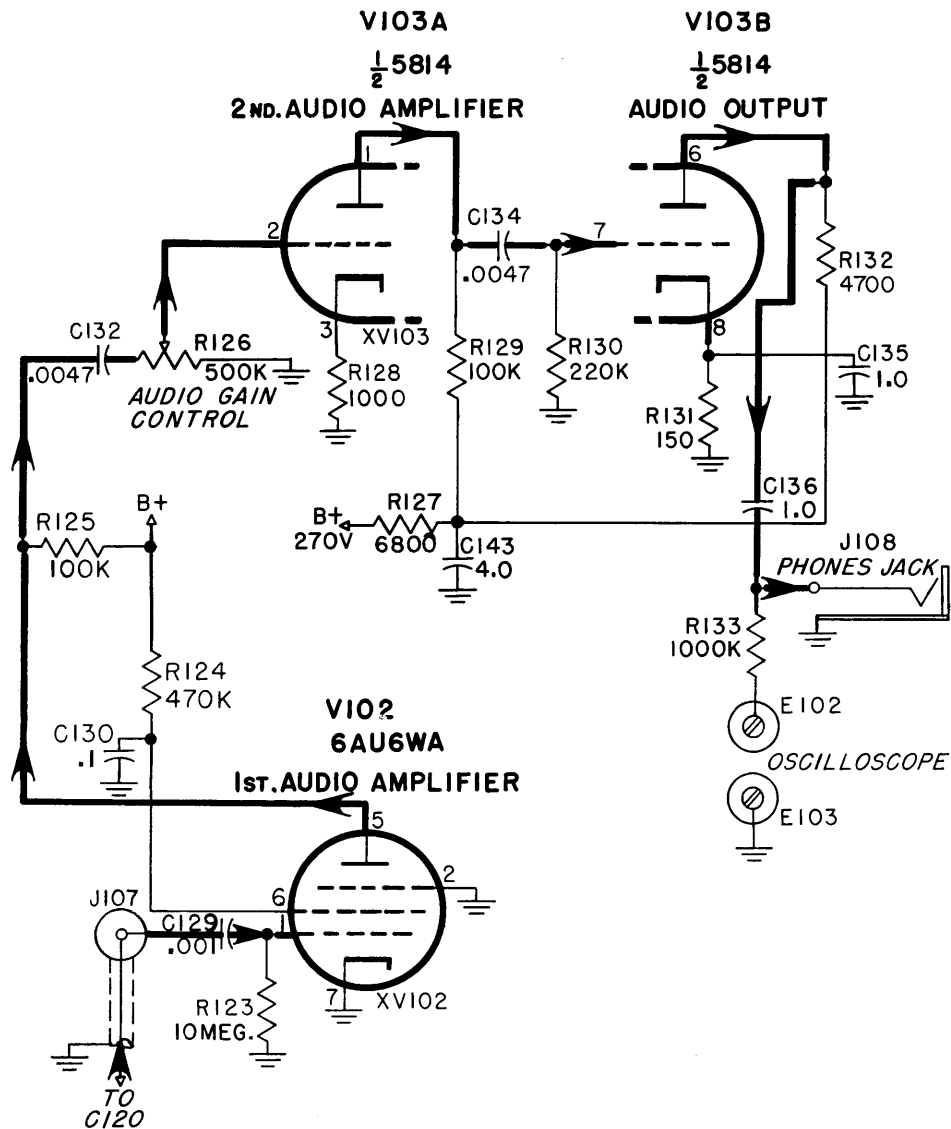

Figure 2-5. Audio Amplifier Stages, Simplified Schematic Diagram
e. AUDIO AMPLIFIER (See Figure 2-5).—The three-stage audio amplifier is composed of a 6AU6WA sharp cut-off pentode V102 and a 5814 twin triode V103. The triode sections of V103 are connected in cascade. R123 is the grid resistor for V102 and R125 is the plate load resistor. R124 is the screen dropping resistor by-passed by capacitor C130. The signal is coupled to the grid of V103A by way of blocking capacitor C132 with the audio gain control potentiometer R126 serving as the grid resistor.